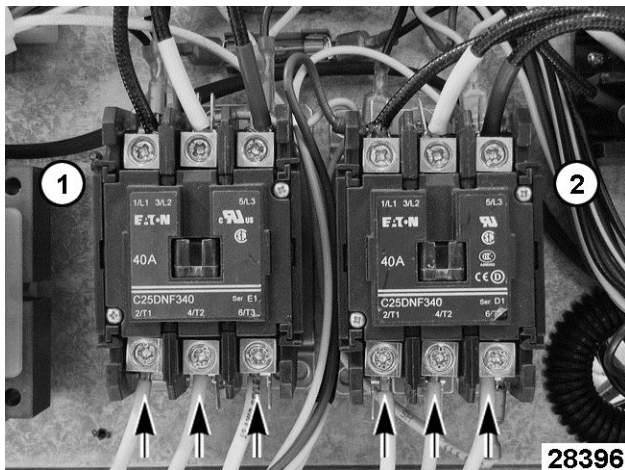

Fig. 49
3. Note heating element wire connection points then disconnect heating element lead wires from Limiting contactor [1] Fig. 49 and Regulating contactor [2] Fig. 49.